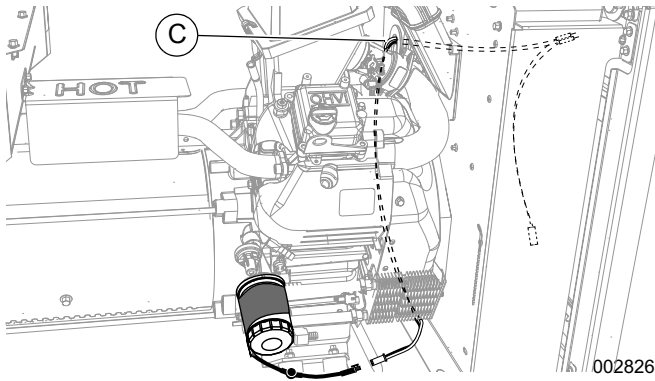

Figure 7. Routing Heater Wires (11-22kW)
3. Plug the connector into one of the Y-harness sockets (B).
4. See Figure 7. Pass the lead wires and empty Y-harness socket beneath the engine and through the harness grommet (C) in the engine divider panel,